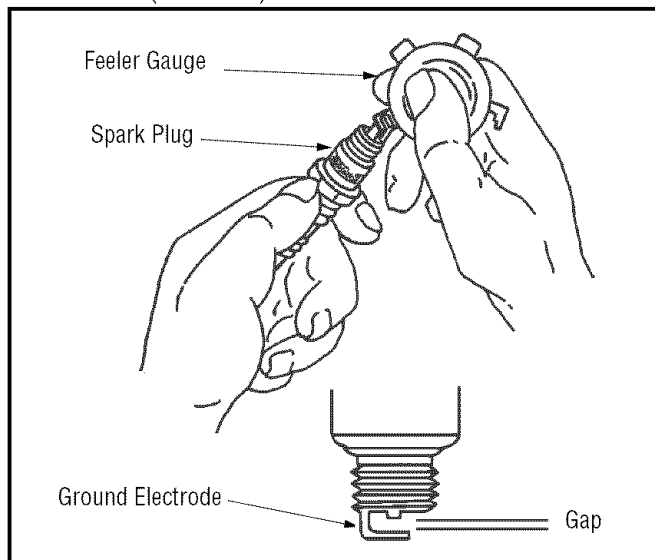

Figure 16
- Check the gap using a feeler gauge and adjust, if necessary, by carefully bending the ground electrode. See Figure 16. Set the spark plug gap to .76 mm (0.030 in.).